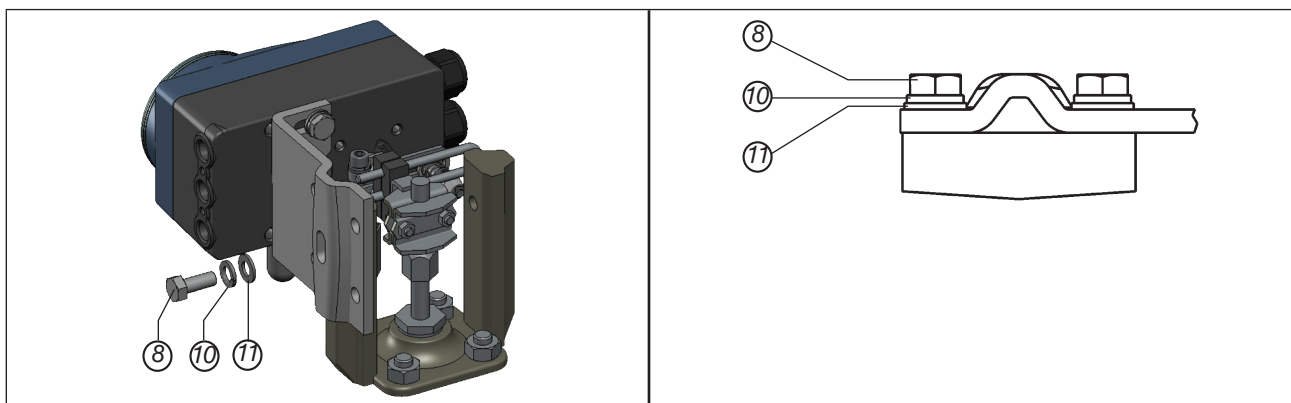

Fig. 26: Attaching the positioner with the mounting bracket; for actuators with a cast frame
→ Attach the mounting bracket to the cast frame using one or more hexagon bolts ⑧, the washers ⑪ and the spring lock washers ⑩ (see “Fig. 26”).